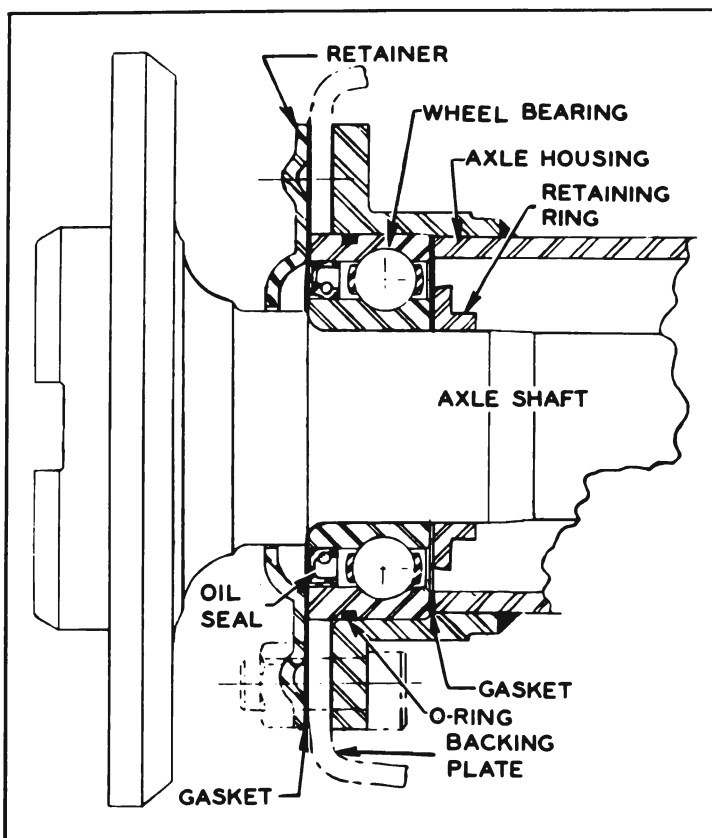

Figure 6-9—Axle Shaft and Bearing Assembly
1. Install new gasket at bearing shoulder in housing. Also install new O-ring seal in groove around outside of bearing. See Figure 6-9.
3. If new rear axle housing or new brake backing plate are used, install axle shaft and bearing assembly without retainer gaskets. Using slide hammer and Puller J-6176, drive axle shaft and bearing in place until bearing is fully seated. To hold the retainer plate snug against the face of the bearing, install the four (4) nuts and tighten finger tight.